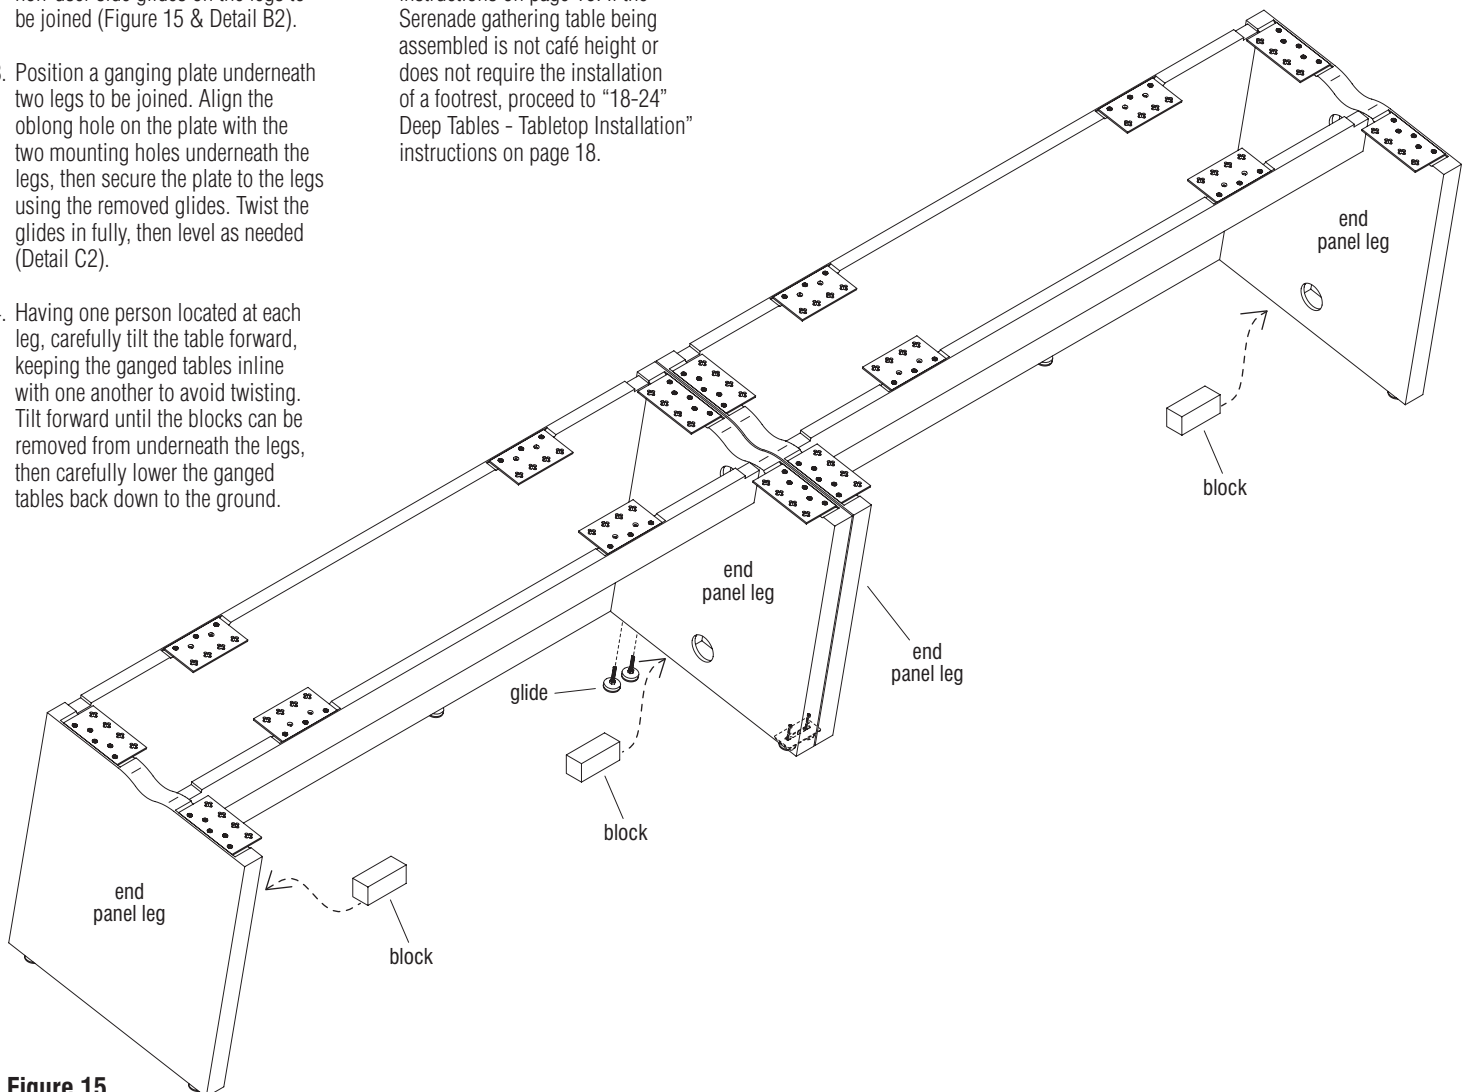

Figure 15
1. Have one person positioned at each single leg and at each pair of legs to be joined on the non-user side, then carefully lift, to tilt the tables to be joined back enough for a third person to insert one block under each single leg and under the pair of legs to be joined. Place blocks just behind the non-user side glides as illustrated. Once all blocks are in position, the table legs can be lowered onto the blocks (Figure 15).
2. Twist out to remove the back, non-user side glides on the legs to be joined (Figure 15 & Detail B2).